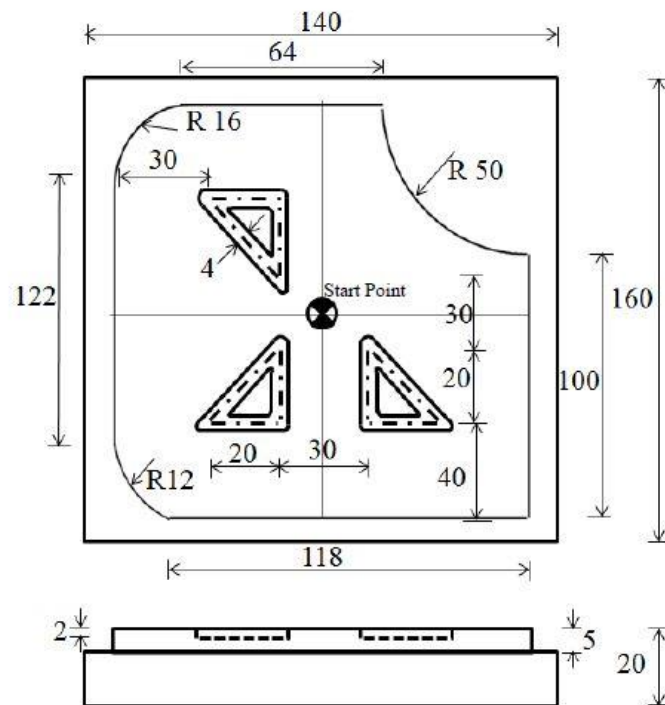

Fig: 6A
- 5A.** Write a part program to obtain the component as shown in the Fig. 6A **(07)**